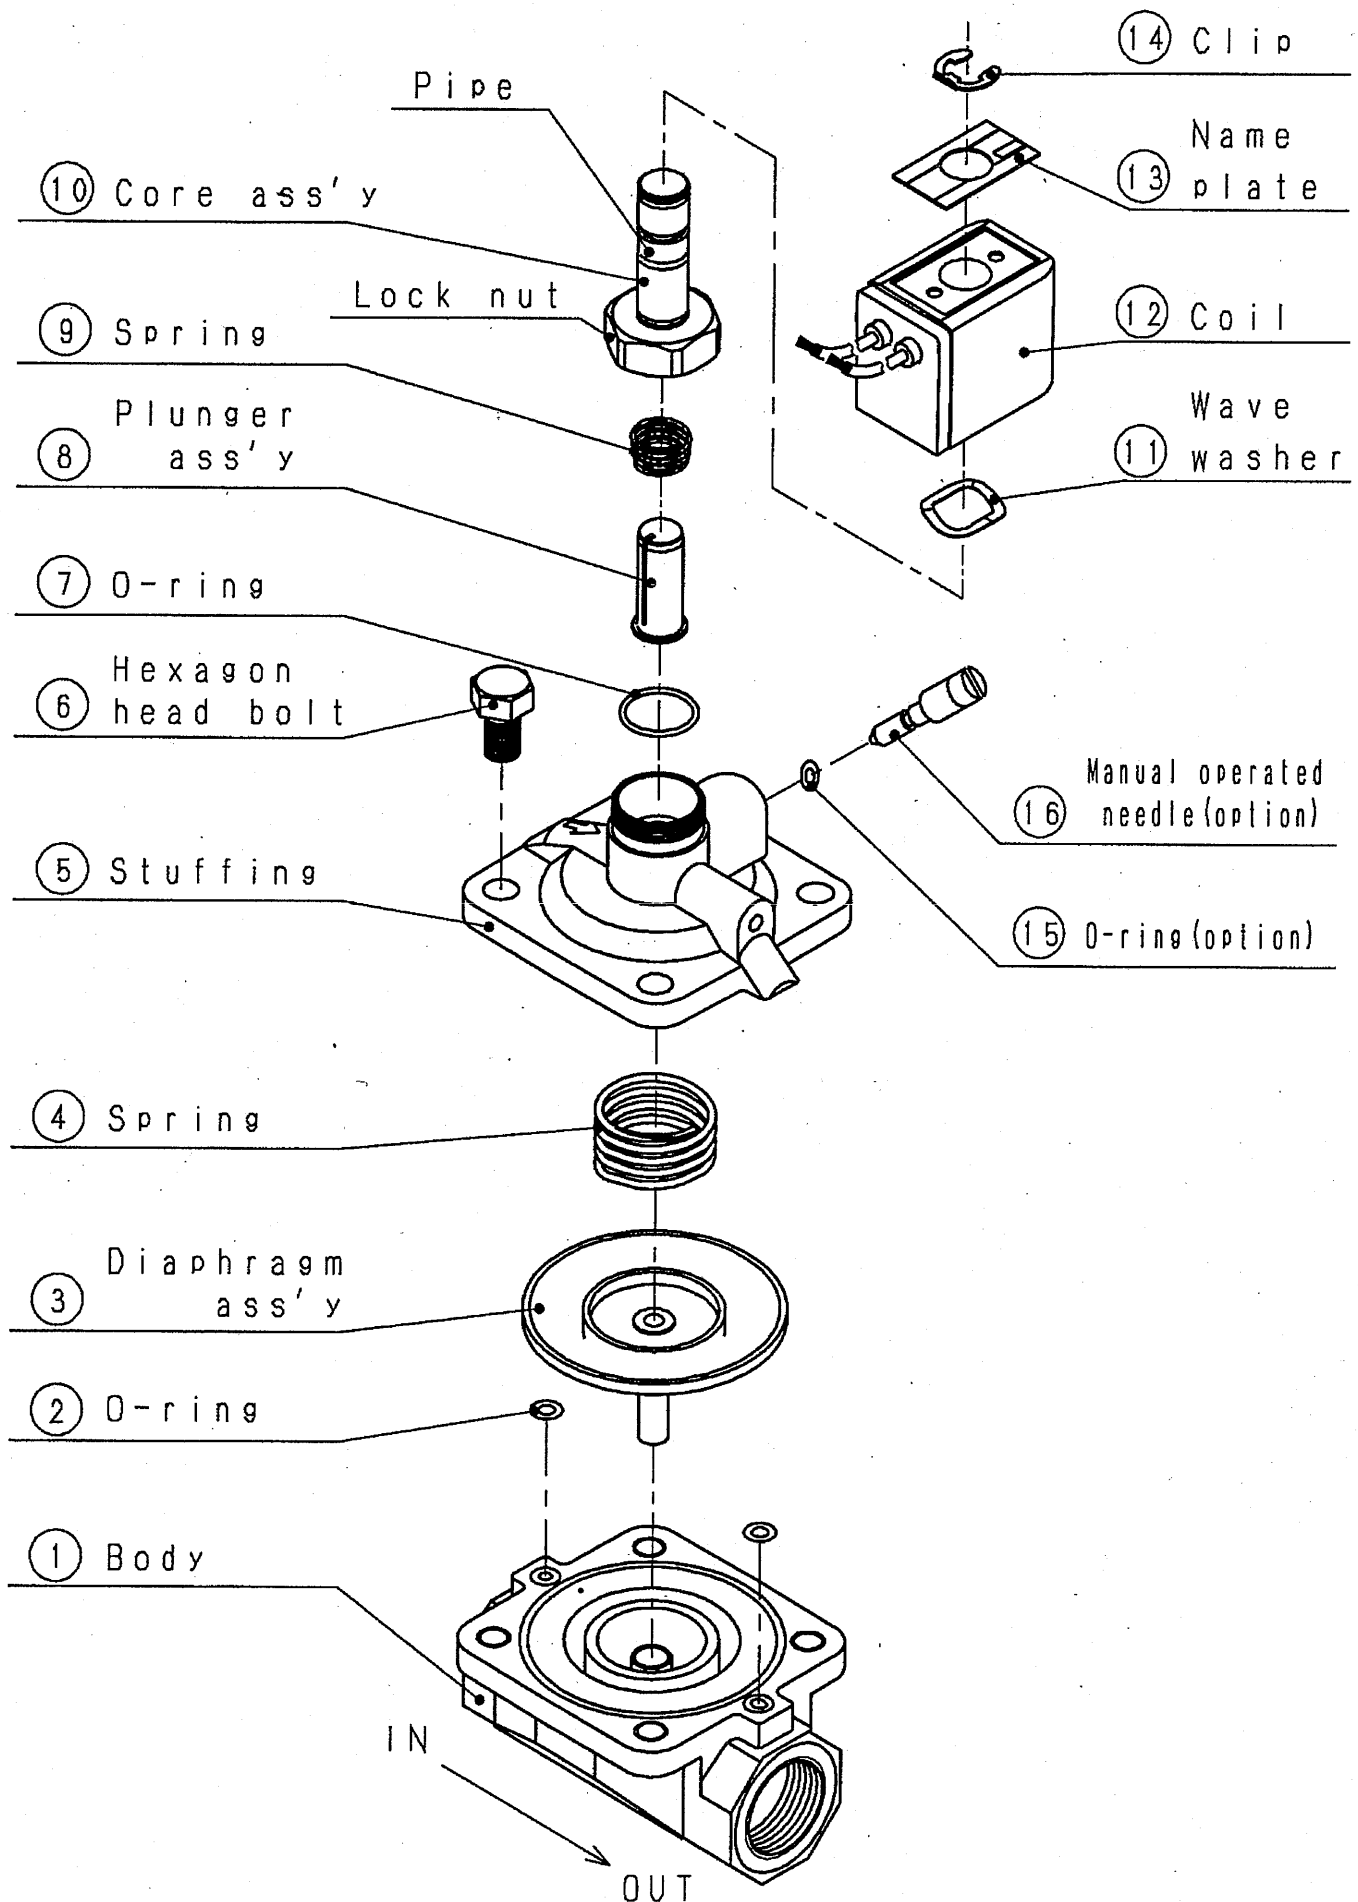

Fig.17 Disassembly drawing (Coil option symbol: 2C)
For details on disassembly and assembly, refer to the disassembly figures in Fig. 17 and 18 according to the coil option symbol.
- (1) The following maintenance parts are available as a kit. If any abnormality is found in the parts, replace the part immediately. (Refer to the disassembly drawings in Fig. 17.)